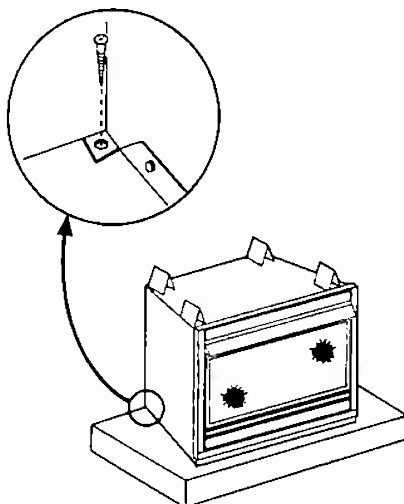

Figure 14
Step 8. Position Heater – Place the heater in desired location. It may be helpful to temporarily assemble the surround around the appliance to properly locate the unit. Refer to Figure 14 for floor and platform installations. If the heater is to be installed into a framed wall refer to the built-in assembly steps beginning on page 5.
Step 9. Secure Heater – Bend the tabs down (Figure 14). Using two (2) screws securely tighten the appliance to the platform.